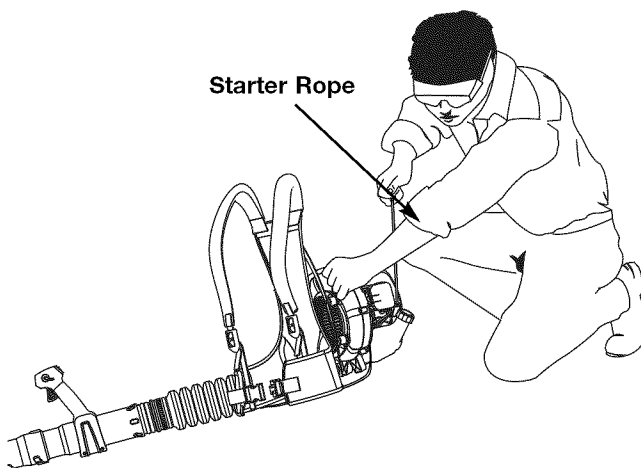

Fig. 13
WARNING: Avoid accidental starting. Make sure you are in the starting position when pulling the starter rope (Fig. 13). To avoid serious injury, the operator and unit must be in a stable position while starting. To avoid serious personal injury, make sure that the blower tube is locked in place or firmly installed.
- Crouch in the starting position (Fig. 13) and pull the starter rope 5 times in a smooth and rapid motion.